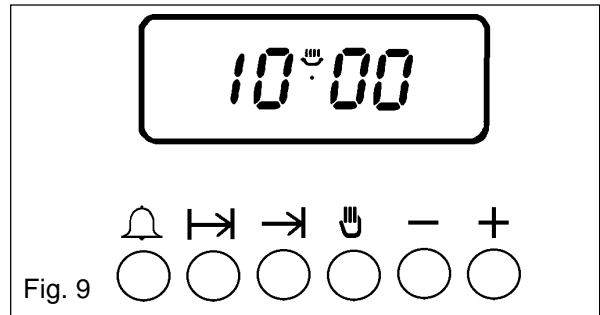

Fig. 9
- i) Ensure the electricity supply is switched ON and that the correct time of day is displayed, e.g. 10.00am as Fig. 9.